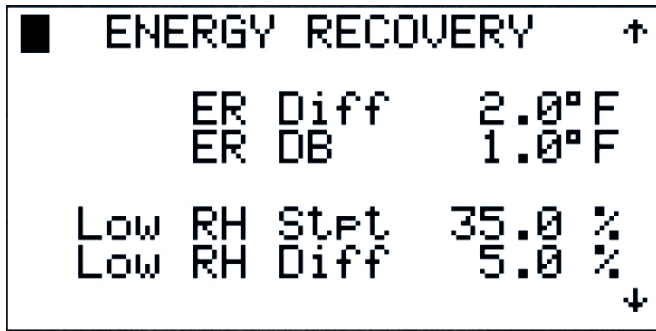

Figure 65
2.3.3.2.2 Tuning – Energy Recovery (Figure 65)